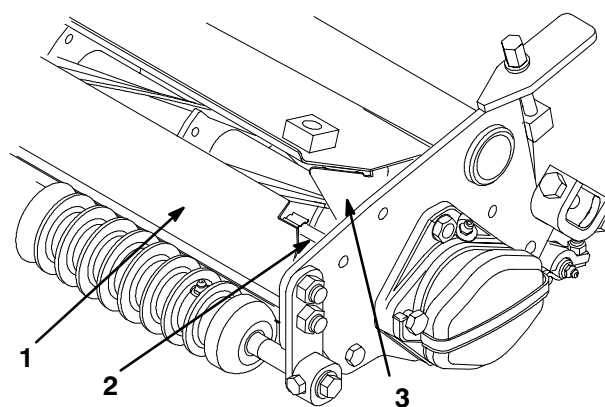

Figure 11
- A. Remove and discard the front shield assembly (Fig. 11). Also, remove and discard the shield mounting studs and fasteners secured to each cutting unit side plate.
- C. Bend the grass shield side deflectors outward until they are flush with the cutting unit side plates (Fig. 11).